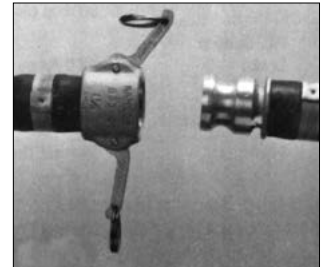

Figure 2
- b) If additional lengths of V60 extension hose are required, connect them together using the Kamlok couplers (Figure 2).